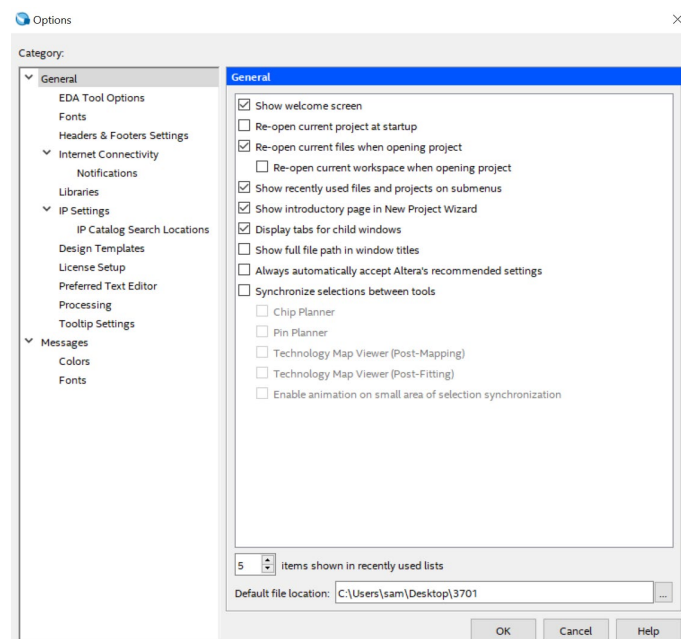

Figure 21: Changing the default folder (directory).
- As shown in Figure 21, above the “OK” button near the bottom of the window, you will see an option for “Default File location:”. Click on the ellipsis, then find the directory that you would like to use as your default when creating a new project using the Project Wizard and click “Select Folder”.